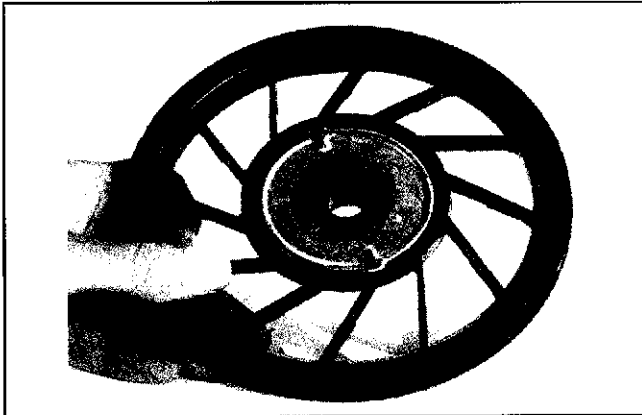

Figure 7-8. Position of Spring and Keeper in Pulley.
- Note the position of the spring and keeper assembly in the pulley. See Figure 7-8.